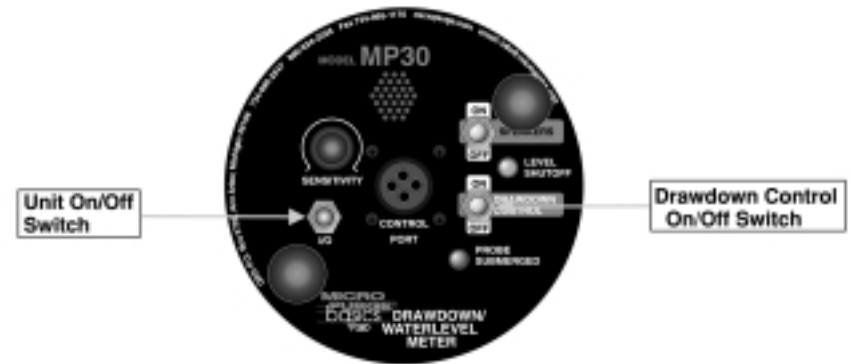

Figure 2 MP30 Keypad
1. Determine static water level with MP30 Drawdown Control Meter power switched "ON" and Drawdown Control mode switched to "OFF" (see Figure 2 below).